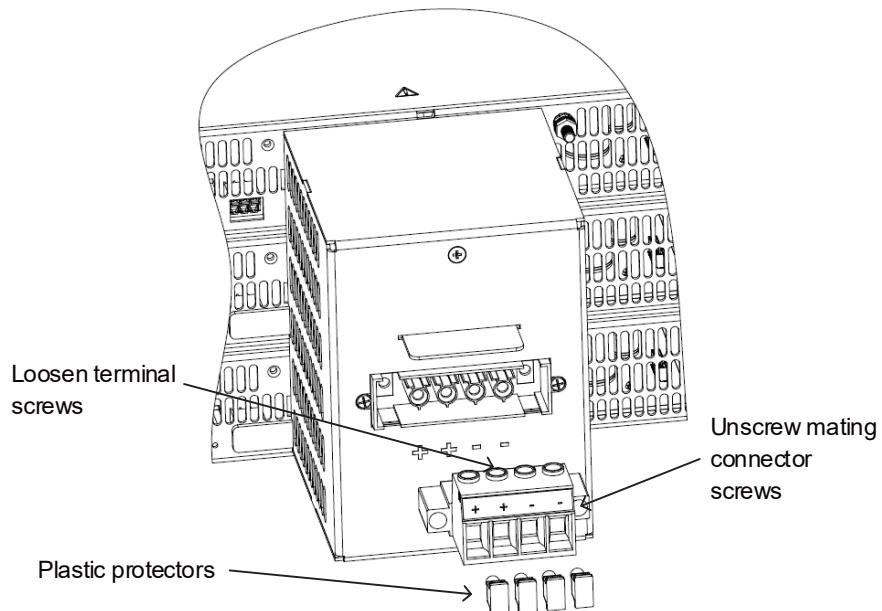

Figure 4-74: Output Connector Disassembly
2. Unscrew the mating connector from the power supply rear panel and loosen the terminal screws, remove the plastic protectors. Refer to Figure 4-74 (15kW is shown, it applies to 10kW as well).